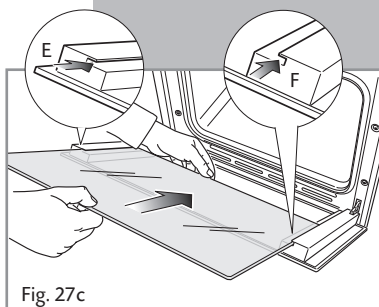

Fig. 27c
- Insert the inner pane in the left **E** and right **F** side guides (fig. 27c) and gently let it slide up to the retainers **H** (fig. 27d).